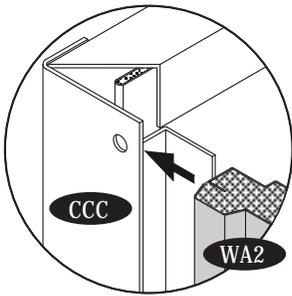

Fig.1
**21.** Insert the wall panel (WA2) into the base 'U' channel and slide into the corner column. See fig. 1&2. Make sure the wall panel must be inserted fully into the corner column. See top view. Secure the corner column (CCC) to the base 'U' channel (BC1C) by (S1) screws from outside. See fig.3.